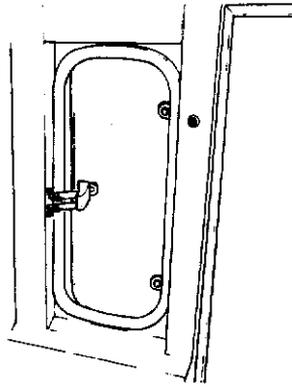

Figure 1-17 Rear Side Window
95. Rear side windows (Fig. 1-17)